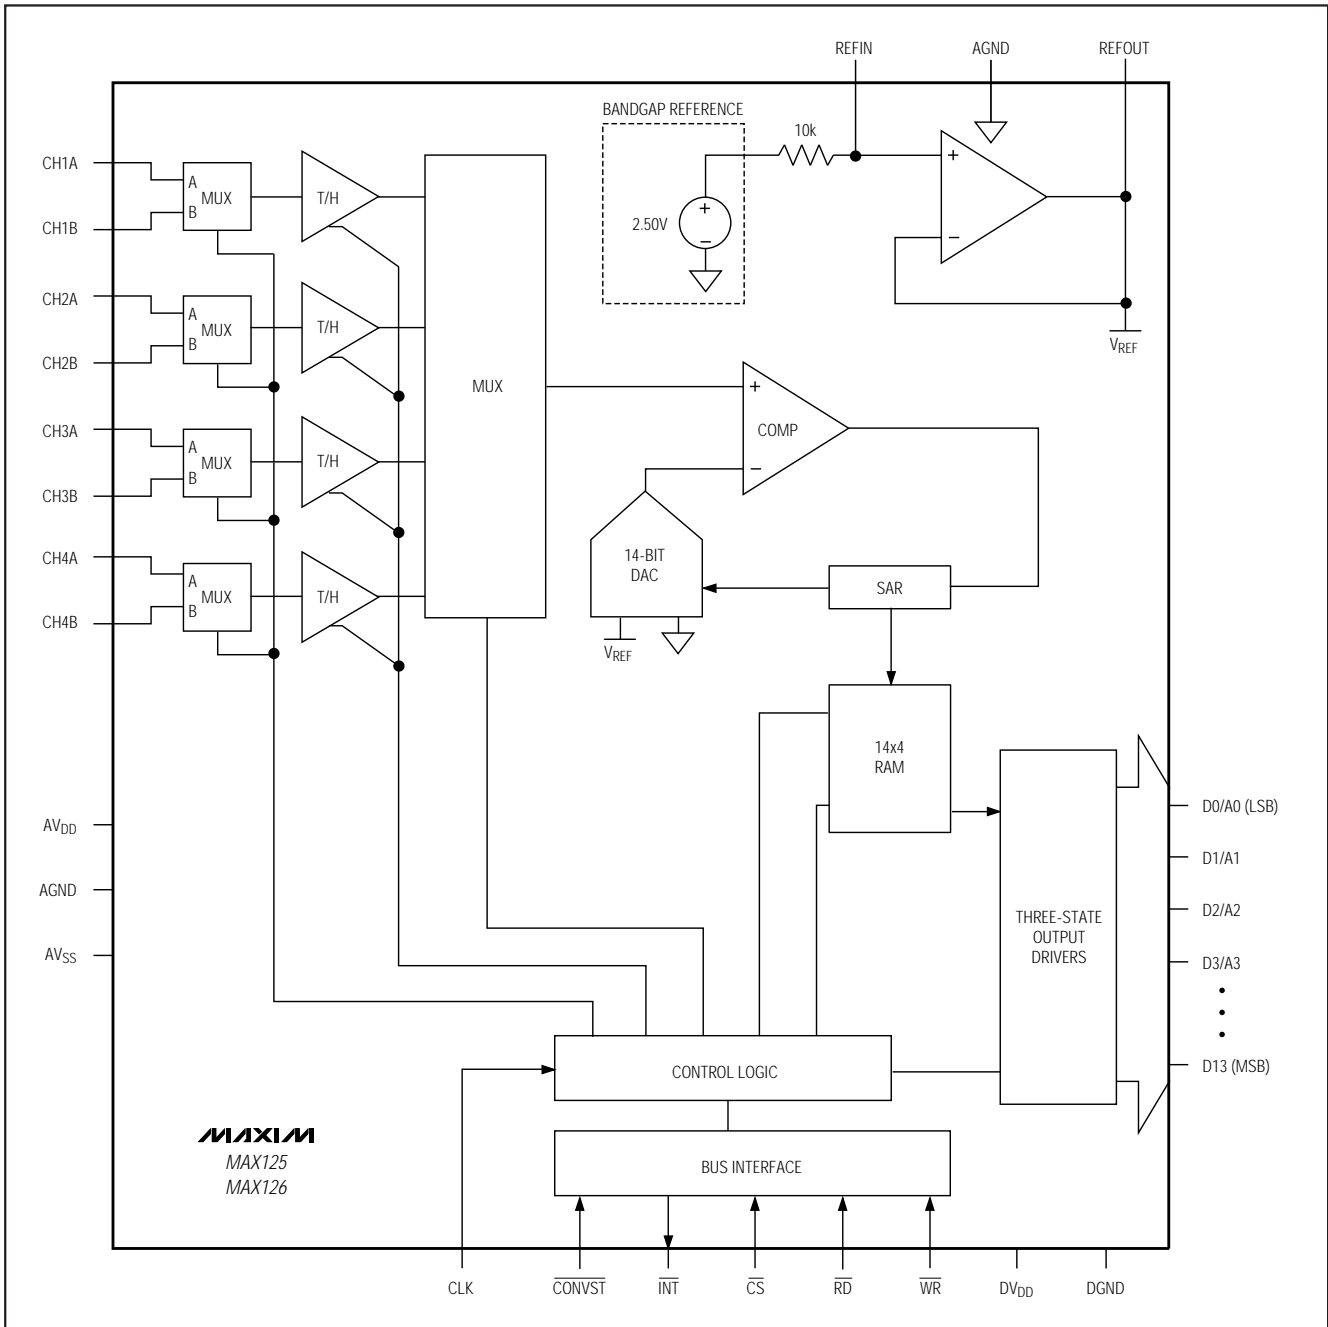

Figure 2. Functional Diagram
**Note 10:** See Figure 2.
The MAX125/MAX126 use a successive-approximation conversion technique and four simultaneous-sampling track/hold (T/H) amplifiers to convert analog signals into 14-bit digital outputs. Each T/H has two multiplexed inputs, allowing a total of eight inputs. Each T/H output is converted and stored in memory to be accessed sequentially by the parallel interface with successive read cycles. The MAX125/MAX126 internal micro-sequencer can be programmed to digitize one, two, three, or four inputs sampled simultaneously from either of the two banks of four inputs (see Figure 2).
The MAX125/MAX126 have eight conversion modes plus power-down, which are programmed through a bidirectional parallel interface. At power-up, the devices default to the mode *Input Mux A/Single-Channel Conversion*. The user can select between two banks (mux inputs A or mux inputs B) of four simultaneous-sampled input channels, as illustrated in Figure 2. An internal microsequencer can be programmed to convert one, two, three, or four channels of the selected bank per sample. For a single-channel conversion, CH1 is digitized, and then INT goes low to indicate completion of the conversion. For multichannel conversions, INT goes low after the last channel has been digitized.